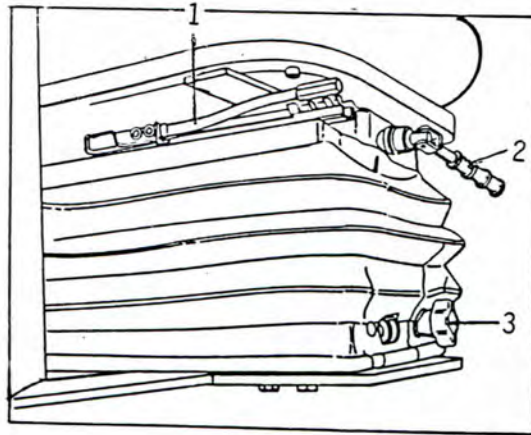

Fig. 7 Seat Adjustment
- 7.1 Pull the lever (1 Fig. 7) outward and move the seat forward or backward into the desired position and then release the lever.
Move the lever (2 Fig. 7) into the position corresponding to the driver's weight (with the seat unoccupied).
Rotate the handwheel (3 Fig. 7) to adjust the height of the seat.